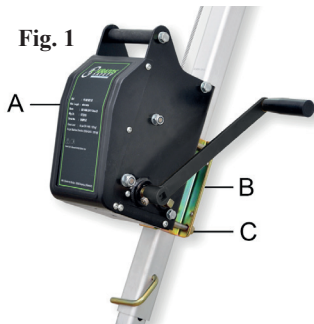

Fig. 1
1. Position the winch A on the plate B. (Fig. 1)